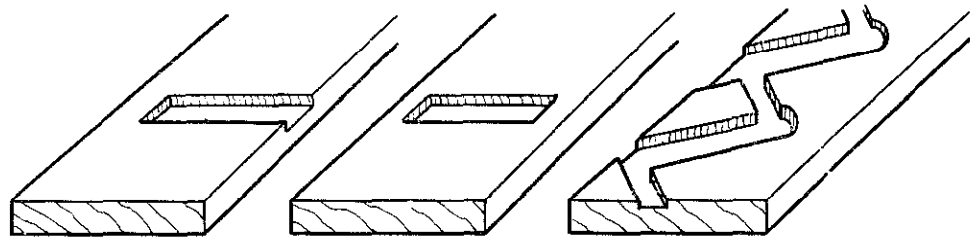

Fig. 8-72 Types of cutouts which may be made with the router plane.
- The *router plane* is used to remove wood from between sawed or chiseled edges. See figures 8-72 and 8-73.